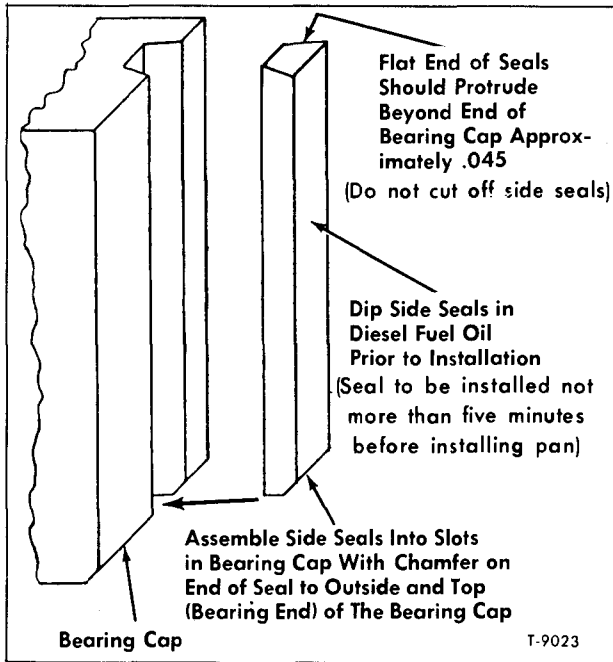

Figure 10—Bearing Cap Side Seal Installation
5. Apply diesel fuel oil on bearing cap side seals, then insert a seal in groove at each side of rear bearing cap chamfered end first (fig. 10). Narrow edge of seals must mate with narrow side of groove in cap (fig. 10).